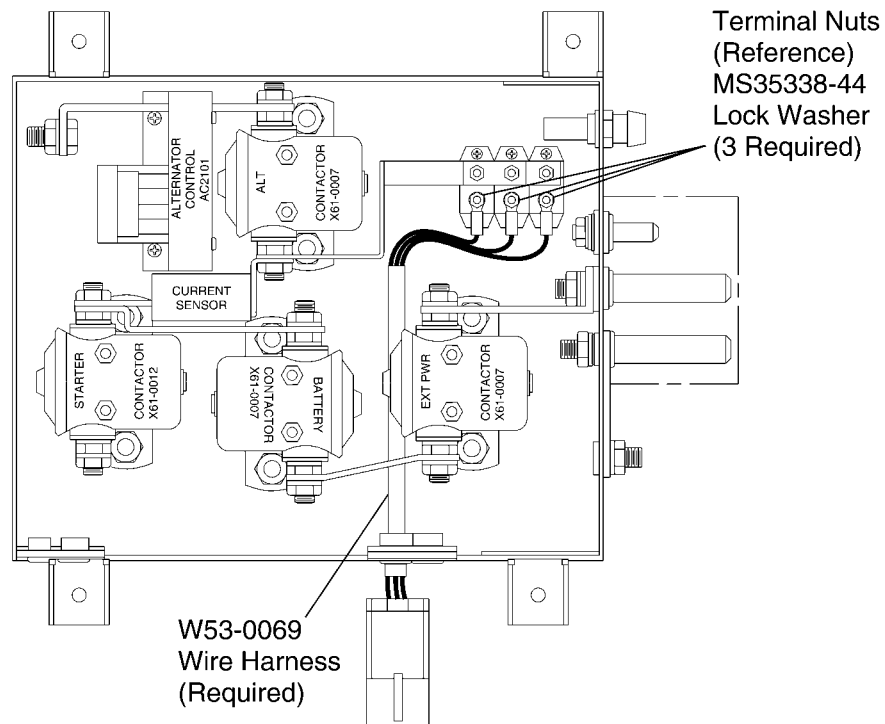

Figure 1. MCU Wire Harness (Sheet 1)
5. (Refer to Figure 1.) Replace the W53-0069 Wire Harness in the MCU as follows: